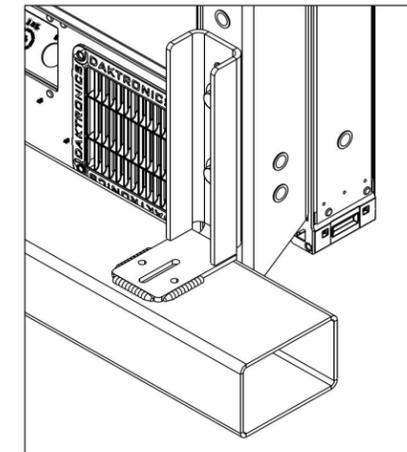
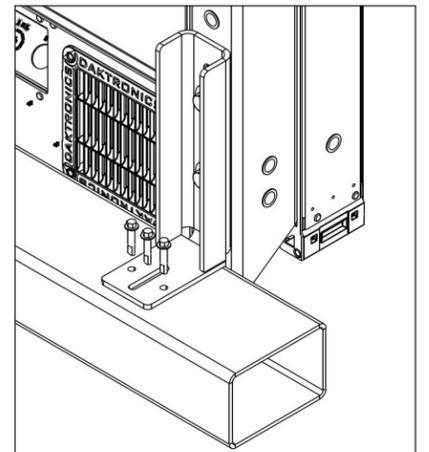

Figure 7: Welded Attachment
Figure 8: Weldless Attachment
8. Attach the clips to the structure by either welding (**Figure 7**) or installing the self-drilling screws (**Figure 8**). Refer to the contract-specific Shop Drawing for details on welding and bolting requirements.